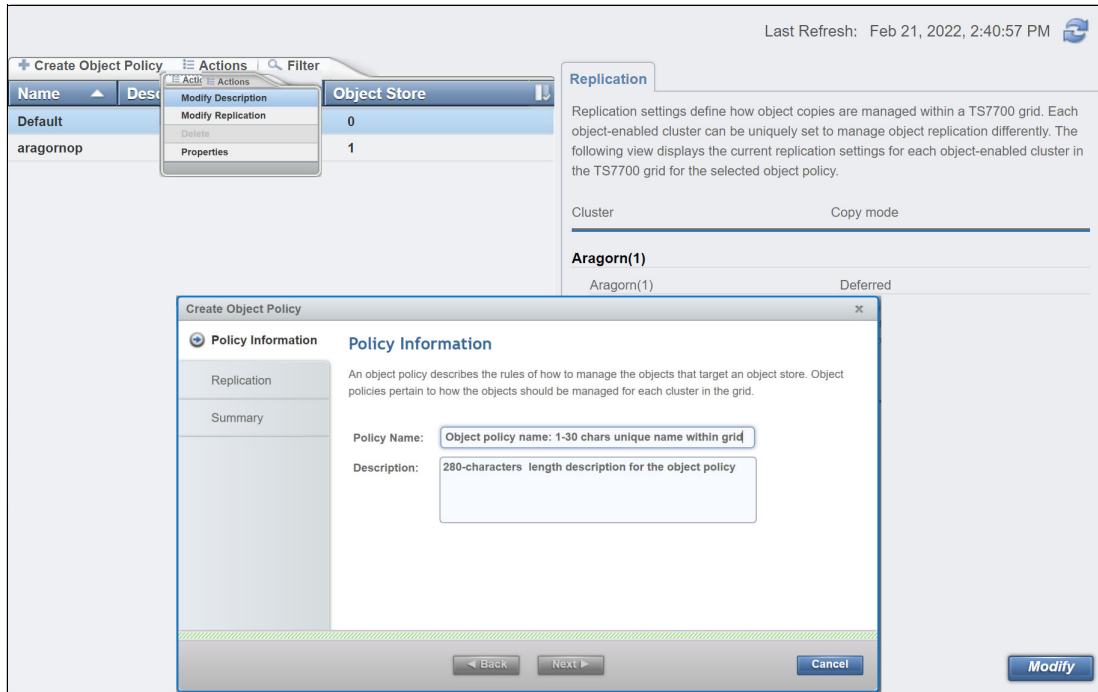

Figure 9-56 Object Policy page and Create Object Policy detail.
Figure 9-56 on page 445 shows the Object Policy page, and Create Object Policy detail.
1. Click **Create Object Policy** (see Figure 9-56).